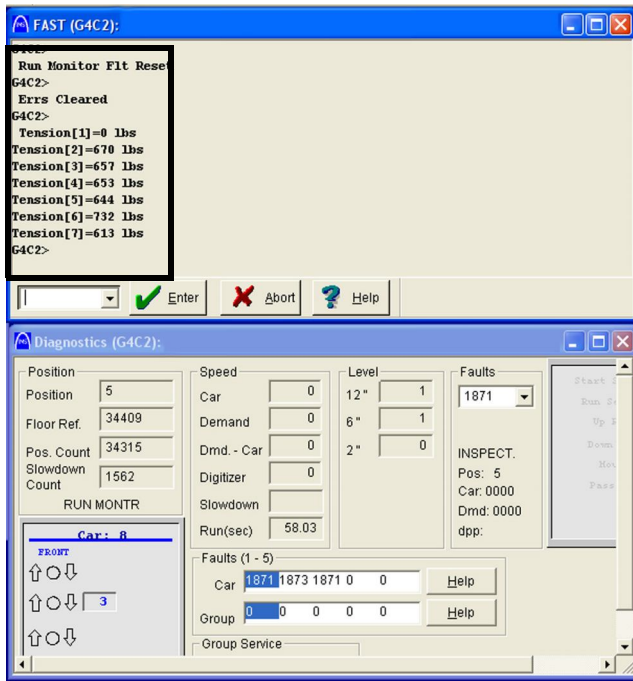

Figure 5 - Hoist Rope One Displays "0"
8. Enter the EMCT command in the Remote Fast of IMS to display the current tension of the hoist ropes. Hoist rope one with the sensor removed should display "0" rope tension. See Figure 5.